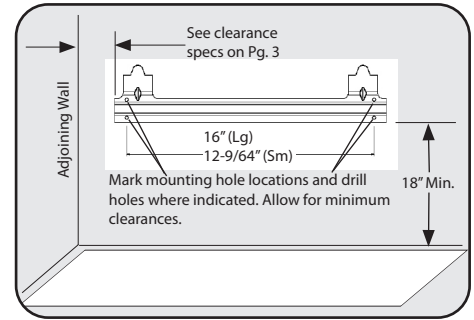

Figure 7
2. Mark screw locations on wall. See figure 7.
**WARNING:** Maintain minimum clearances shown in Figure 7. If you can, provide greater clearances from the floor and joining wall.